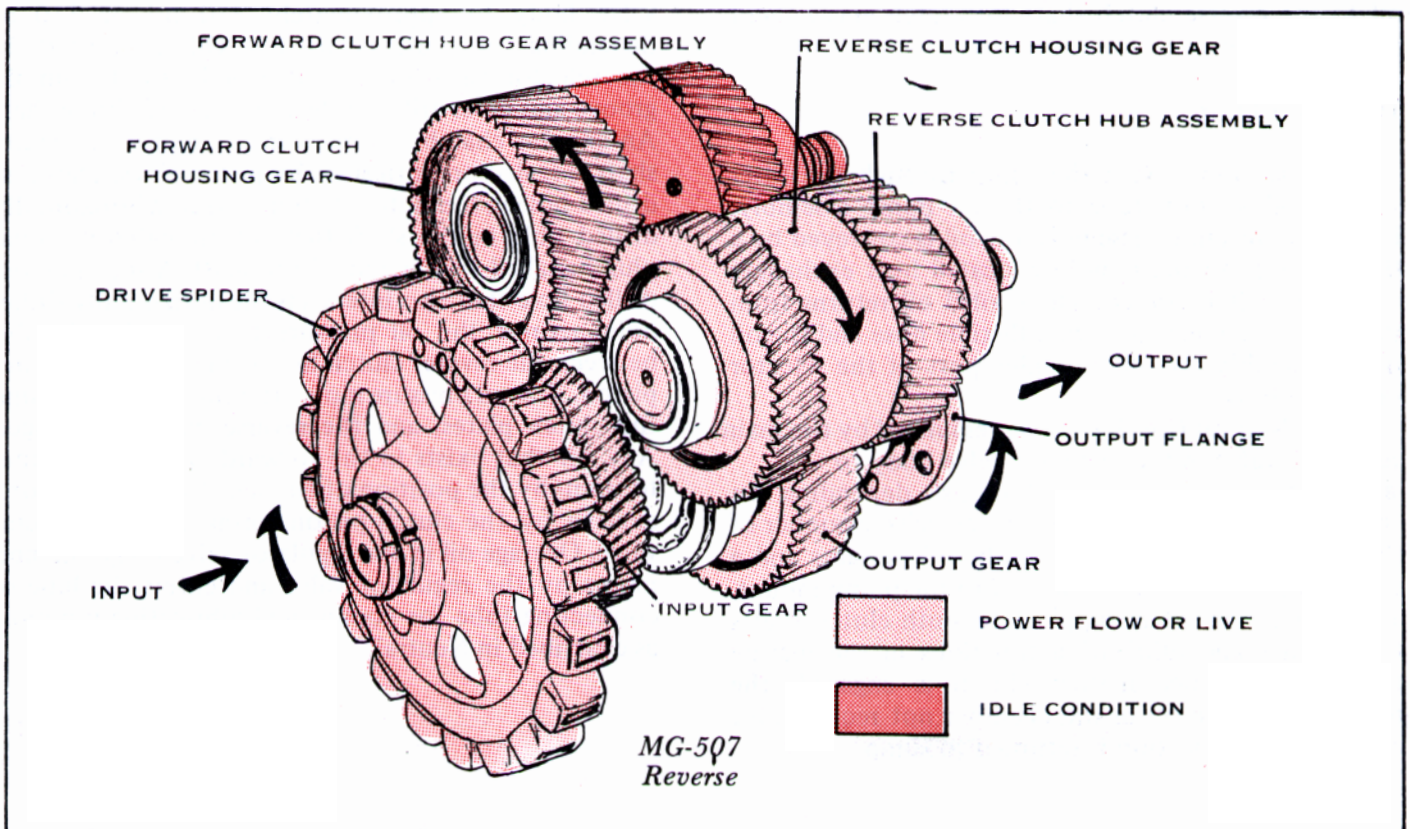

Figure 6. Marine Transmission Power Flow
C. Reverse (fig. 6). When in reverse, all the marine transmission parts that rotated in neutral are still turning. However, when reverse is selected, the reverse clutch steel and faced plates are clamped together by the clutch piston and back plate. The internal teeth of the steel clutch plates are meshed with the smaller diameter external teeth of the clutch hub pinion assembly, and turn the pinion gear at engine speed and in engine direction. The larger diameter external gear teeth of the pinion gear are in constant mesh with the output gear which is press taper assembled on the output shaft. The output flange is spline-connected to the output shaft and, therefore, the flange rotates in anti-engine direction when in the reverse clutch position. The output shaft and the output flange rotate at a speed that is reduced from the engine speed due to the overall ratio between the input gear and the output gear.